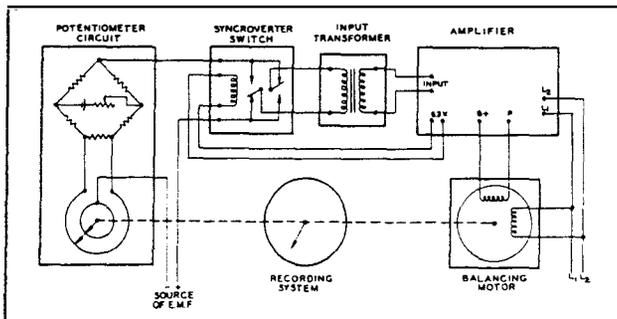

FIGURE 2. SIMPLIFIED SCHEMATIC WIRING DIAGRAM OF DYNAMASTER D-C POTENTIOMETER
1. The Dynamaster D-C Potentiometer. (See Figure 2) A millivoltage input from the measuring element is connected in series with the potentiometer circuit and Syncroverter switch. There is a standard voltage in the potentiometer circuit which is automatically adjusted